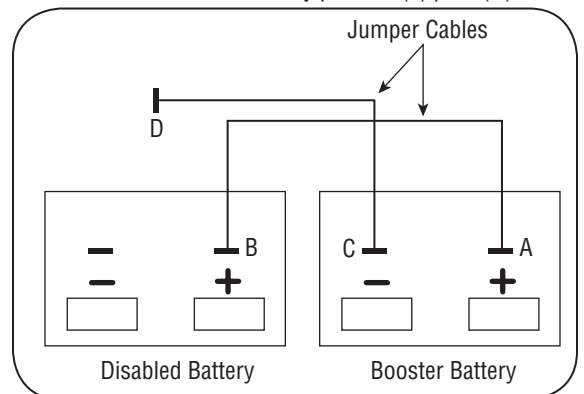

Figure 15
1. Connect positive (+) jumper cable to booster battery positive (+) post (A). See Figure 15.
2. Connect the other end of positive (+) jumper cable to the disabled vehicle battery positive (+) post (B).